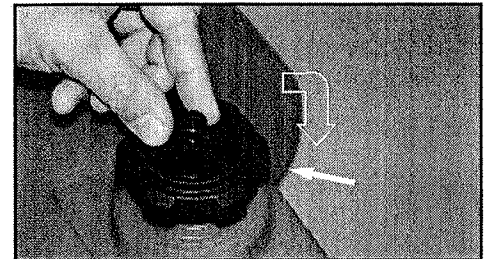

Fig 3
8. Make sure the vent is closed by turning the knob on the cap clockwise. (See Fig. 3)